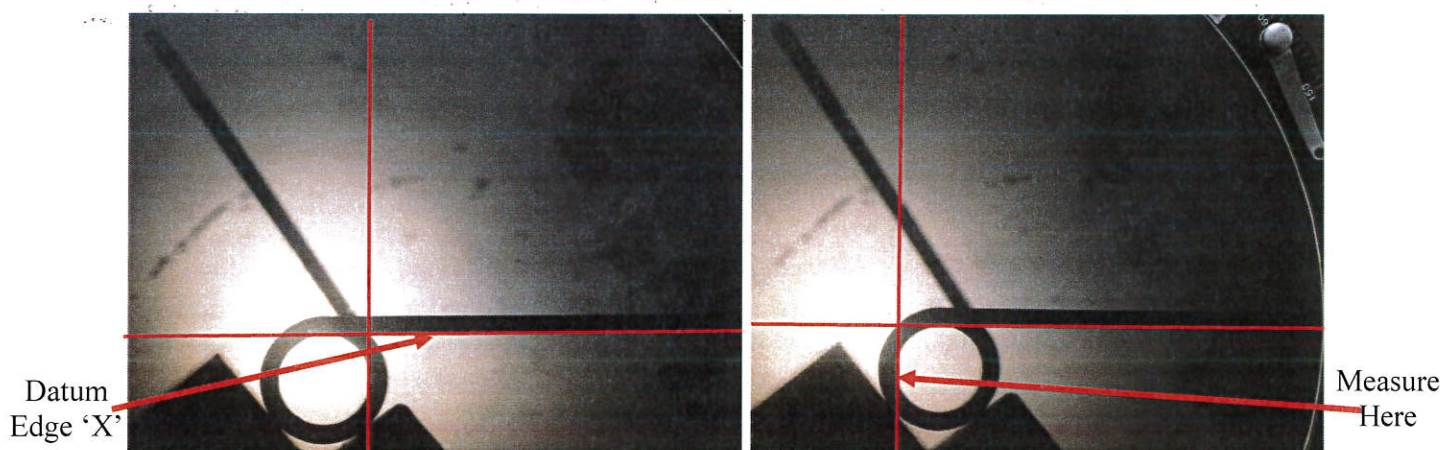

Figure 5: Inside edge of Internal Diameter shown with enhanced axis lines.
6.2.2. **Coil ID.** Zero the X axis by use of the red button as shown in Figure 2: Use the axis readout, measure from the inside edge of the coil to the maximum diameter, as shown in Figure 5: Press the button to enter the value as shown in Figure 2: